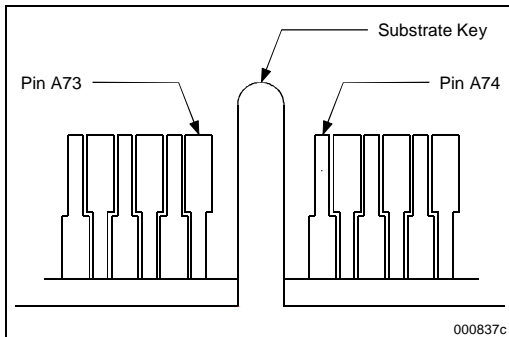

Figure 6. Substrate Edge Finger Contact and Key Detail
- Figure 6. Substrate Edge Finger Contact and Key Detail12